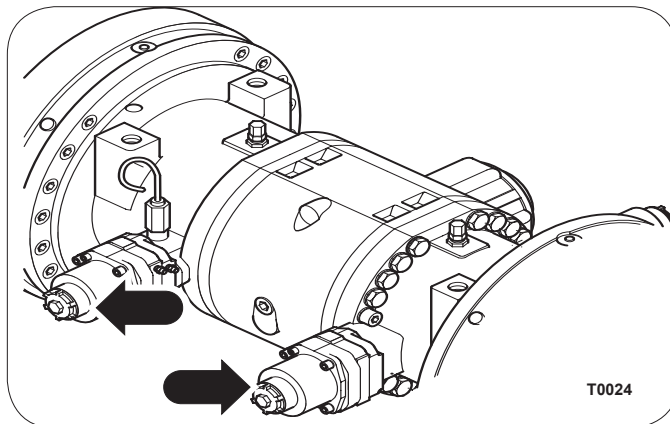

Figure 3: Tandem Axle Parking Brake Release
- Use the 24mm wrench to access the manual parking brake releases on the tandem axles. See Figure 3. The release screws are provided behind the parking brake housing covers.